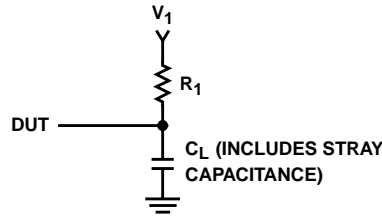

FIGURE 1. LOAD TEST CIRCUIT
- See Load Test Circuit, Figure 1, $R_1 = 10k\Omega$, $C_L = 50pF$ (Includes Stray and Jig Capacitance).